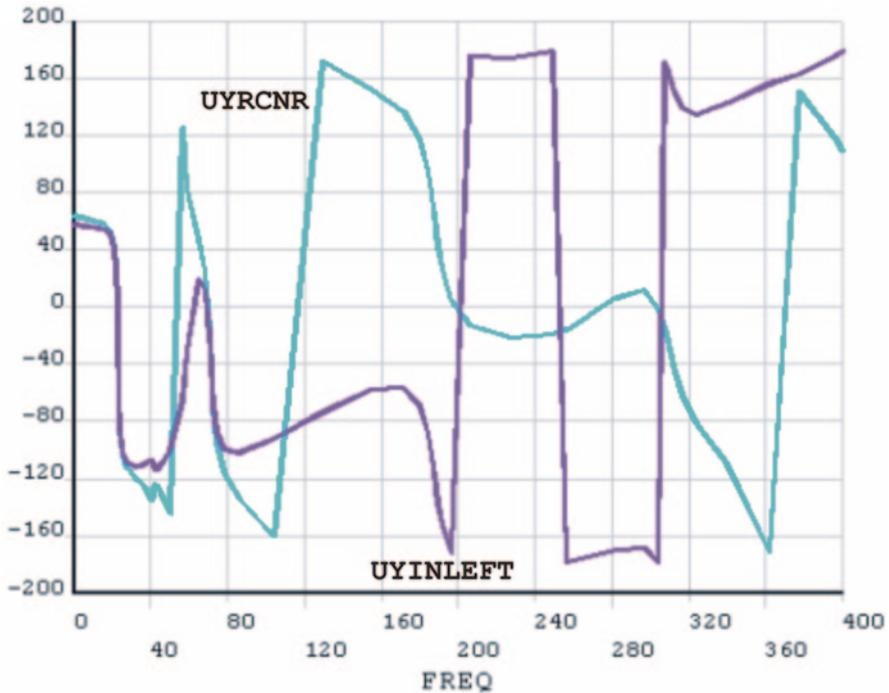

Fig. 8.89 Phase angles of the displacements at two locations as functions of frequency under harmonic loading
- The plot appears in the *Graphics Window*, as shown in Fig. 8.89.